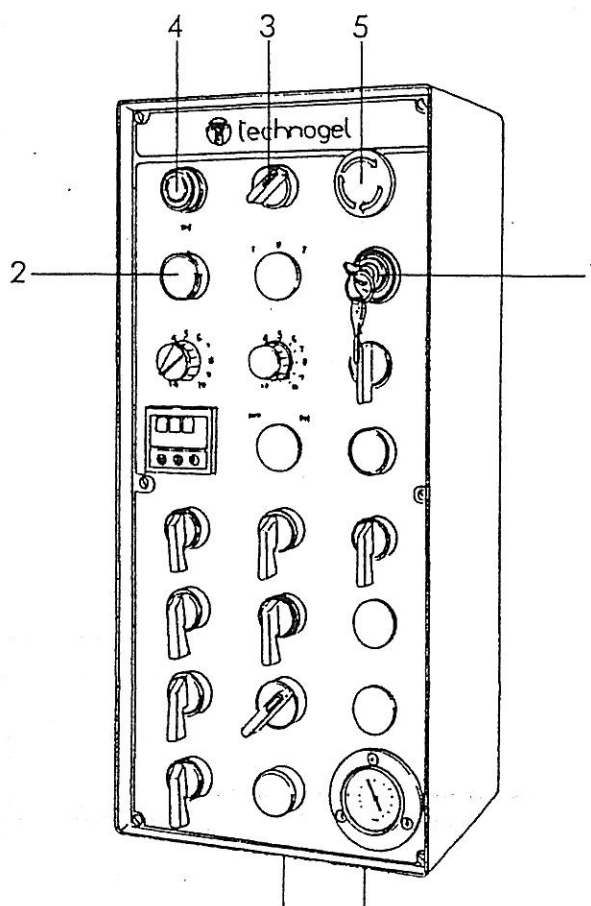

Fig. 12.2.1
- Turn on the mains switch 1 fig. 12.2.1 so that light 2 comes on;
The red EMERGENCY button 5 fig. 12.2.1 can be pressed at any time to stop the work sequence. This will disconnect the electricity supply to the entire electrical system.